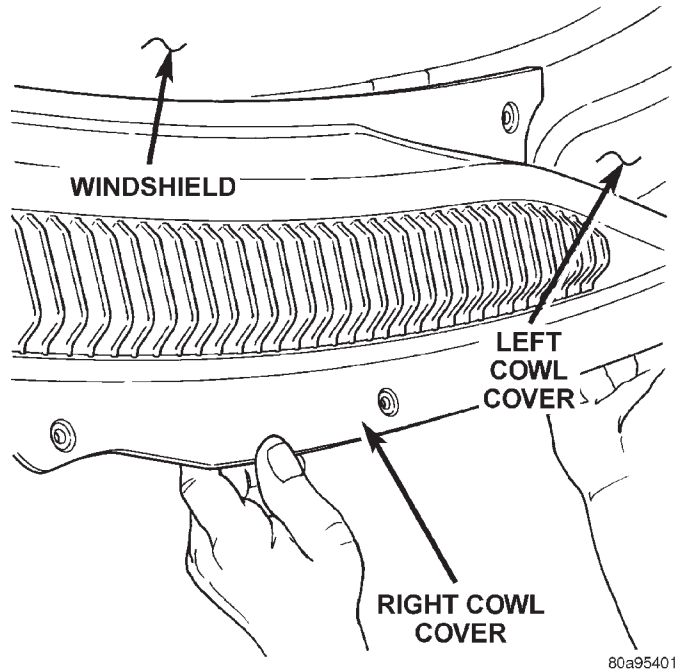

Fig. 27 Cowl Covers
- Remove right and left cowl covers (Fig. 27).